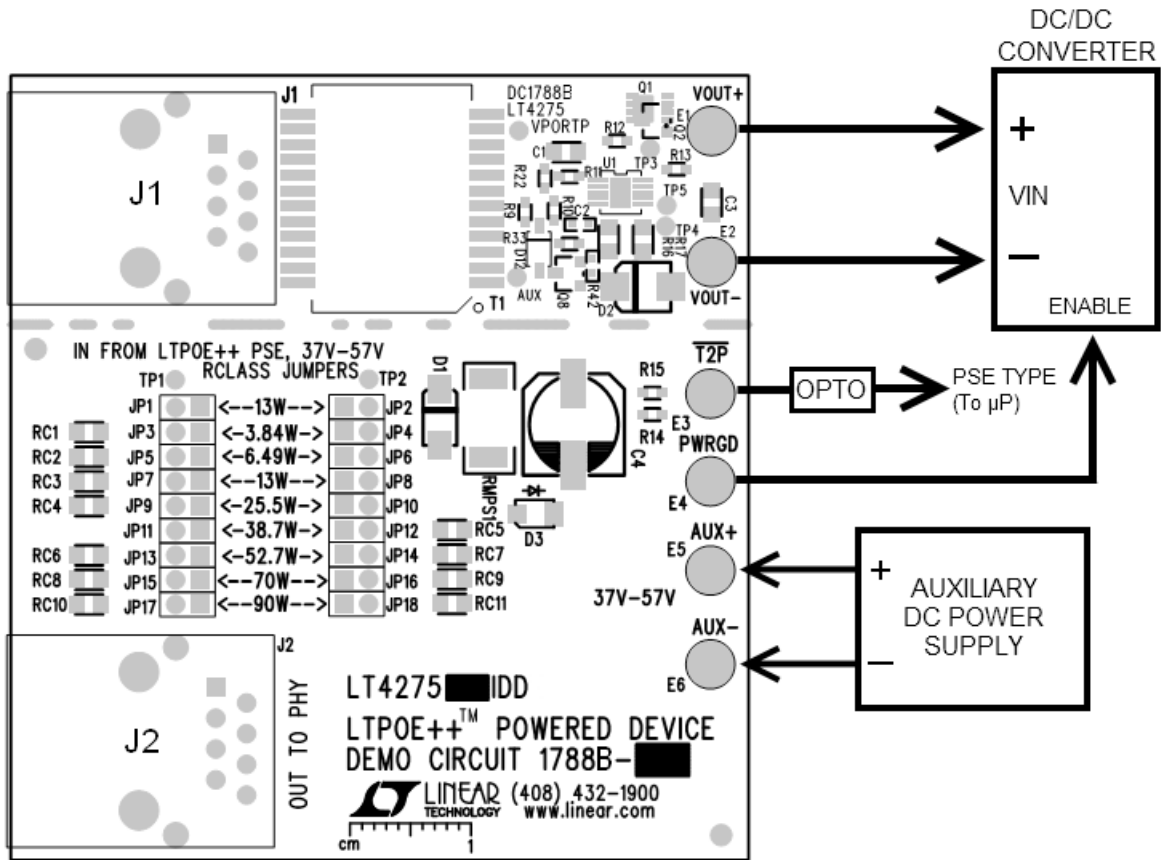

Figure 3. Setup Diagram for the DC1788B-B with a DC/DC Converter, a Microprocessor, and an Auxiliary DC Power Supply
1. Refer to Figure 3 to evaluate the DC1788B-B with a DC/DC converter and an auxiliary DC power supply.